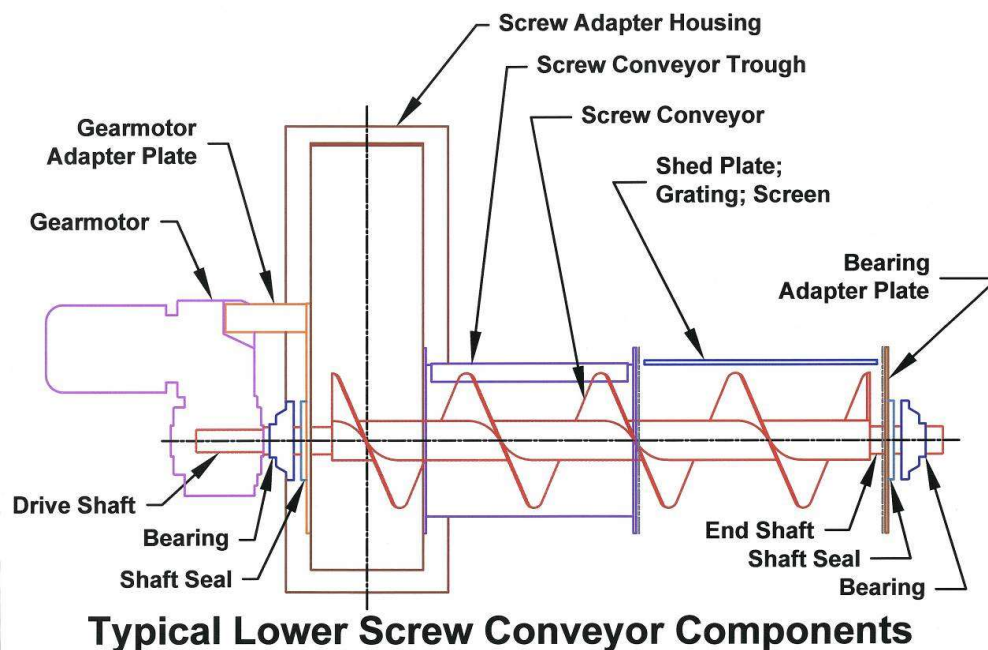

Figure 5-1
- c. Typical components of a lower screw conveyor reclaim are shown in Figure 5-1.